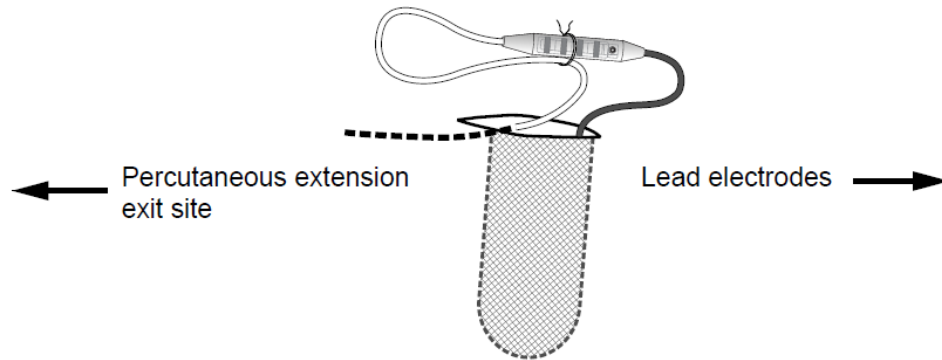

Figure 3. Enlarged image of the subcutaneous pocket for the percutaneous extension and strain relief loops.
3. Create a subcutaneous pocket perpendicular to the percutaneous extension tunneling path to place the percutaneous extension connector and strain relief loops (Figure 3 and 4).